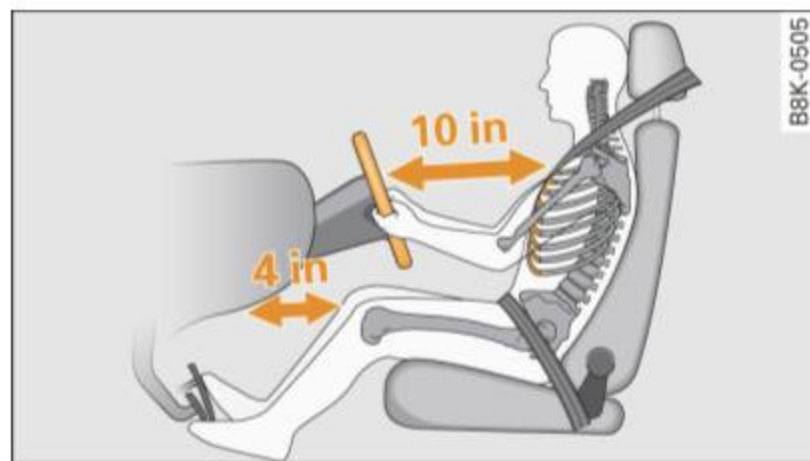

Fig. 158 The correct distance between driver and steering wheel
- Adjust the steering wheel so that there is a distance of at least 10 inches (25 cm) between the steering wheel and your breast bone ⇒ fig. 158. If not possible, see your authorized Audi dealer about adaptive equipment.